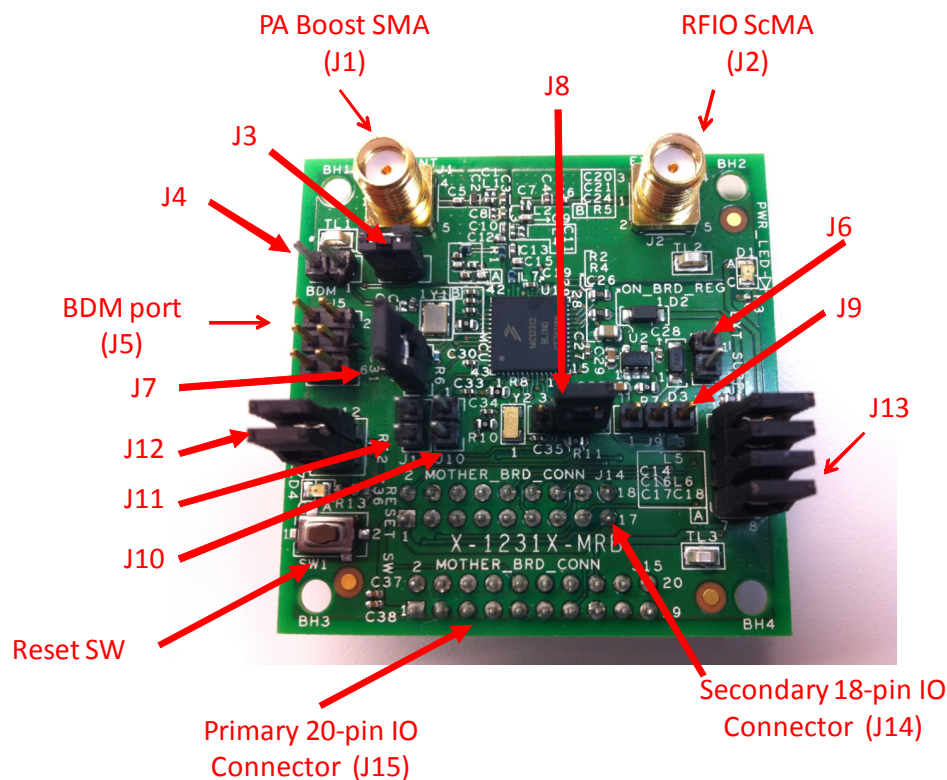

Figure 3-1. 12311-MRB
Figure 3-1 shows the 12311-MRB connector and header locations.
- Figure 3-1 for location of connectors and features
The reset circuit and BDM port connector are shown in Figure 3-7. See Figure 3-1 for switch and header locations.